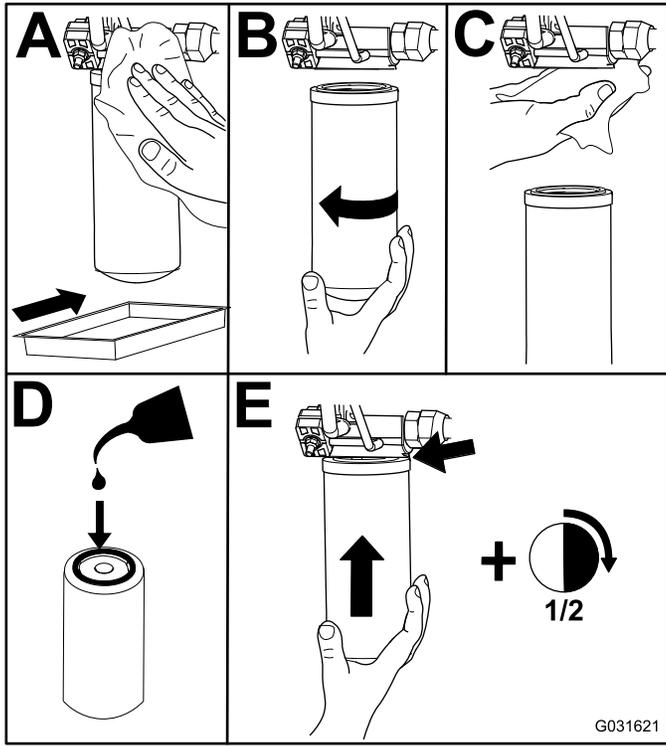

Figure 97
2. Replace the charge hydraulic filter at the hydraulic lift compartment as shown in Figure 97.
4. Replace the return filter at the right side of the machine (Figure 97).